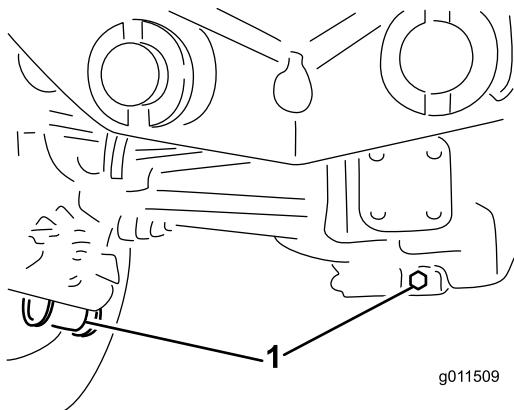

Figure 86
2. Clean the area around the 3 drain plugs; 1 on each end and 1 in the center (Figure 86).